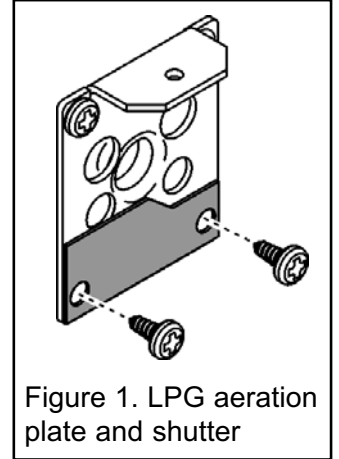

Figure 1. LPG aeration plate and shutter
5. Locate the LPG Aeration shutter in place. Secure this in place by inserting two No.8 screws into the lower holes (See figure1).